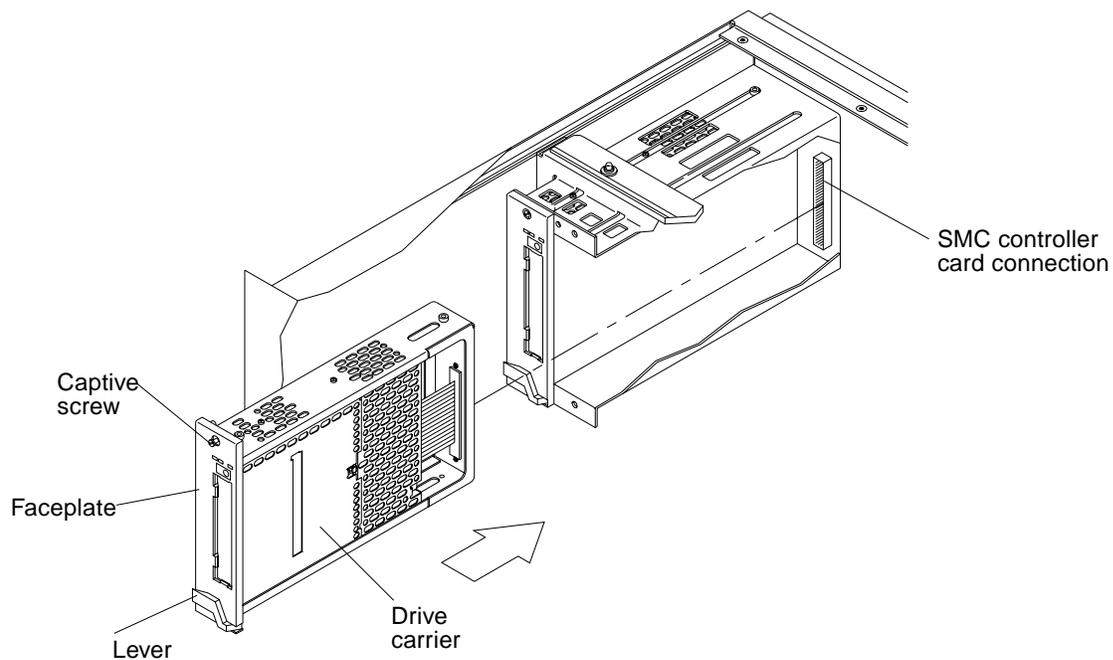

FIGURE 5-3 Inserting the Drive Carrier
1. Insert the drive carrier into the slot with the lever toward the bottom for rackmounted units or on the right for tower units (FIGURE 5-3).